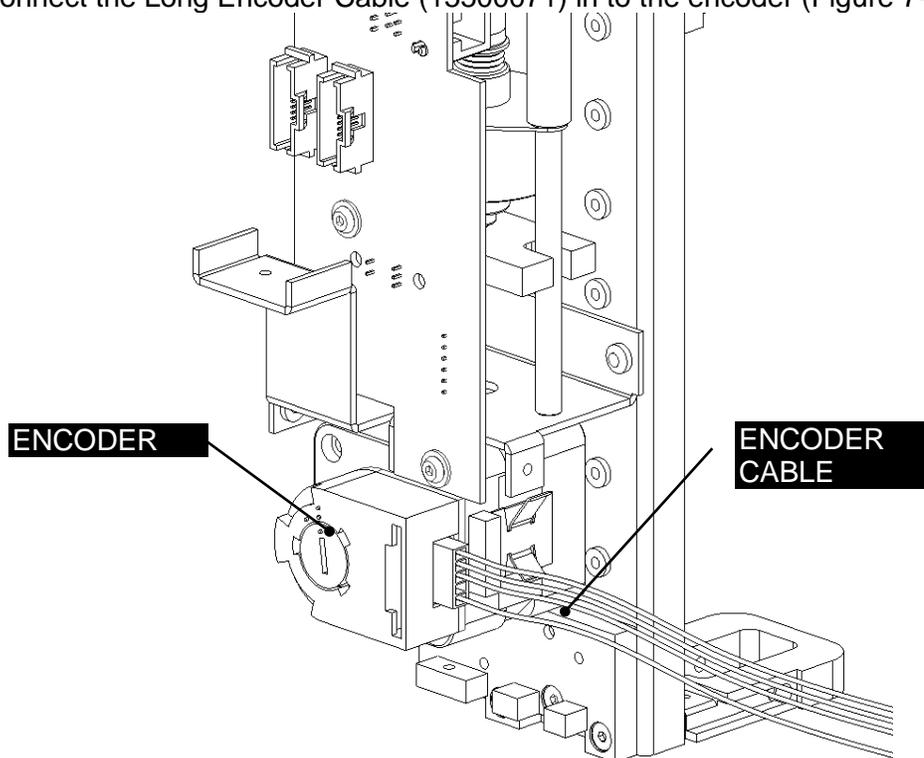

Figure 7-53: Encoder Cable
5. Connect the Long Encoder Cable (15500071) in to the encoder (Figure 7-53).